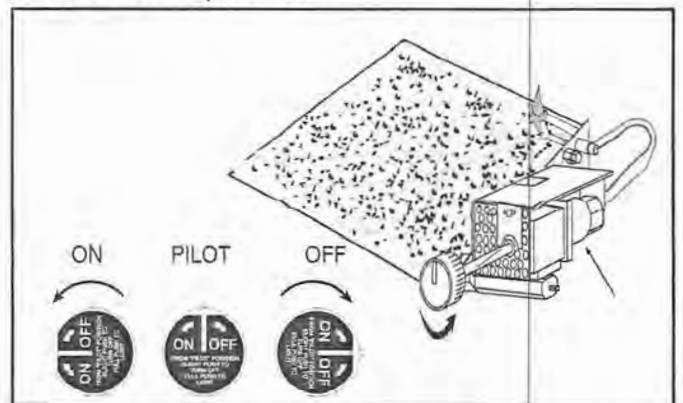

Figure 23
2. From the pilot position, turn the control valve counterclockwise to the 'ON' position (Figure 23). Your gas log set should light.